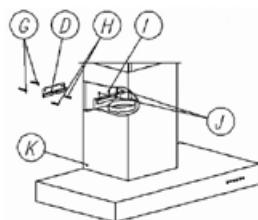

Fig. 4
4. Hang the body of the unit on the holder (K). Set the exact vertical position by screws (J) and (I), Fig. 4.
6. Mount both the chimney covers on the body (K and N), shift the upper chimney cover (N) to the required height, and mark its upper edge on the wall (Fig. 4 and 5). Remove both the chimney covers.